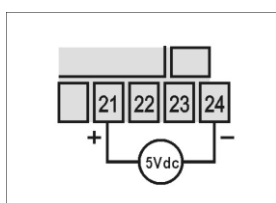

Fig. 6 – Connection of 5 Vdc
- 0-5 Vdc: Fig. 6 shows the 0-5 Vdc voltage signals wiring.